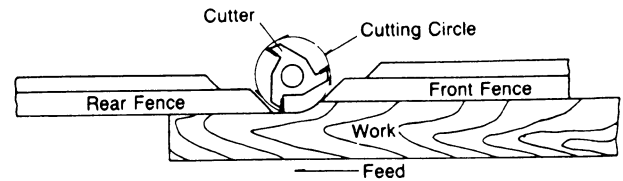

Fig. 10
- The rear fence should be advanced to contact the work as shown in figure 10. The rear fence will then be in line with the cutting circle.